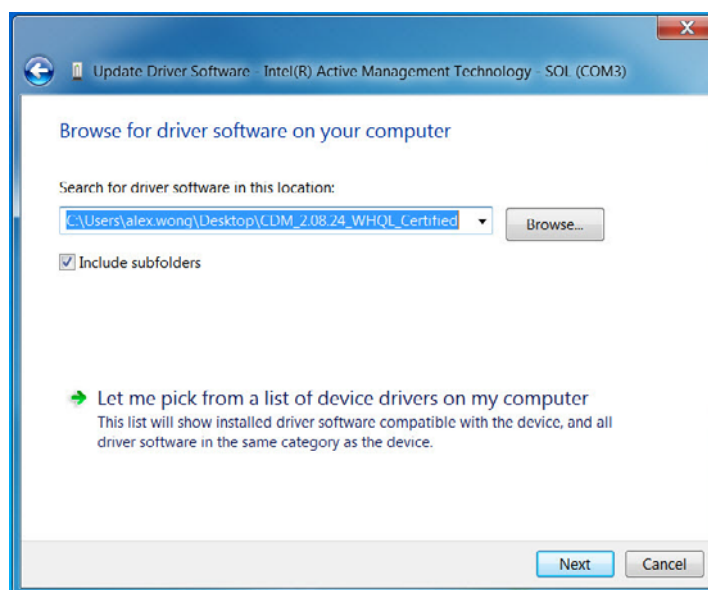

Figure A-3 • Local Drive Software Location
9. Browse to the folder location of your driver on your PC (Figure A-3).